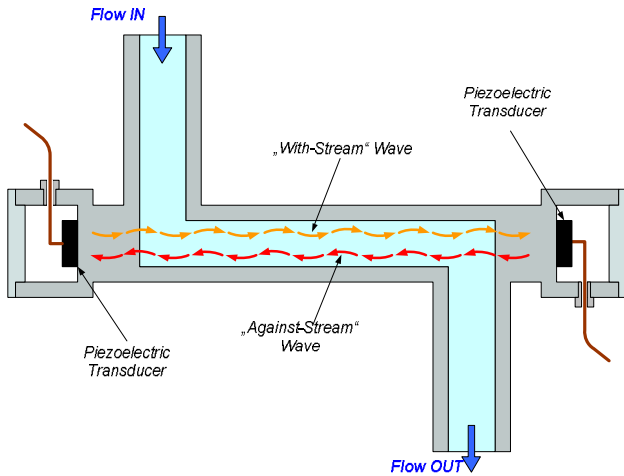

Figure 1: Operating principle of ultrasonic single-use sensor
The *LEVIFLOW*® single-use flowmeters are designed for non-invasive flow measurements of high purity fluids. Figure 1 illustrates the operating principle. Two piezo-electric transducers, mounted in the sensor housing, generate and receive an ultrasonic wave. The two waves are processed by a signal converter. The difference of the transit time of both waves is proportional to the velocity of the fluid. The wet materials of the single-use sensors fabricated from biocompatible (FDA, USP-VI, BSE/TSE and Animal free) gamma sterilizable polypropylene (PP).